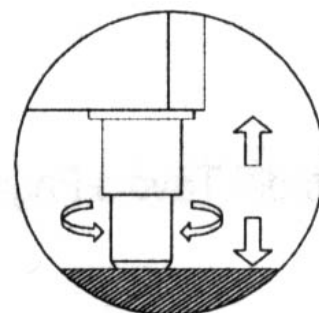

Fig.1
- Position the appliance with the help of a spirit level. Adjust the levelling feet on the metal base of the unit if necessary (in the models fitted with adjustable feet) (Fig.1)